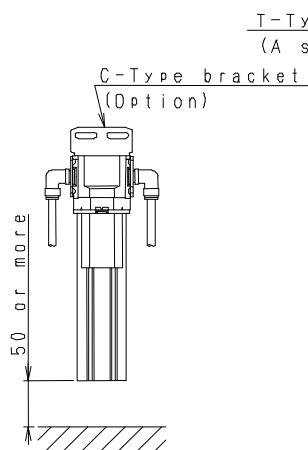

Fig.3
- 1) By using C-type bracket of an option, a main part can be directly attached in a panel etc. In this case, please pipe after inserting C-type bracket in a main part.(Refer to Fig. 3)